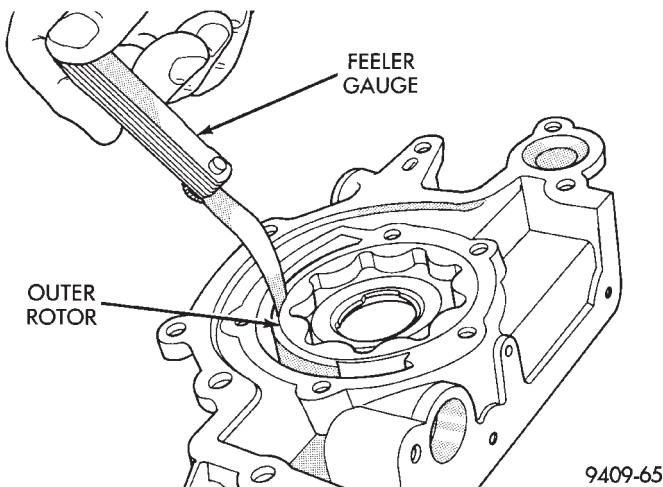

Fig. 114 Measuring Outer Rotor Clearance in Housing
(5) Slide outer rotor into pump housing, press to one side with fingers and measure clearance between rotor and housing (Fig. 114). If measurement is 0.39 mm (0.015 inch.) or more, replace housing only if outer rotor is in specification.